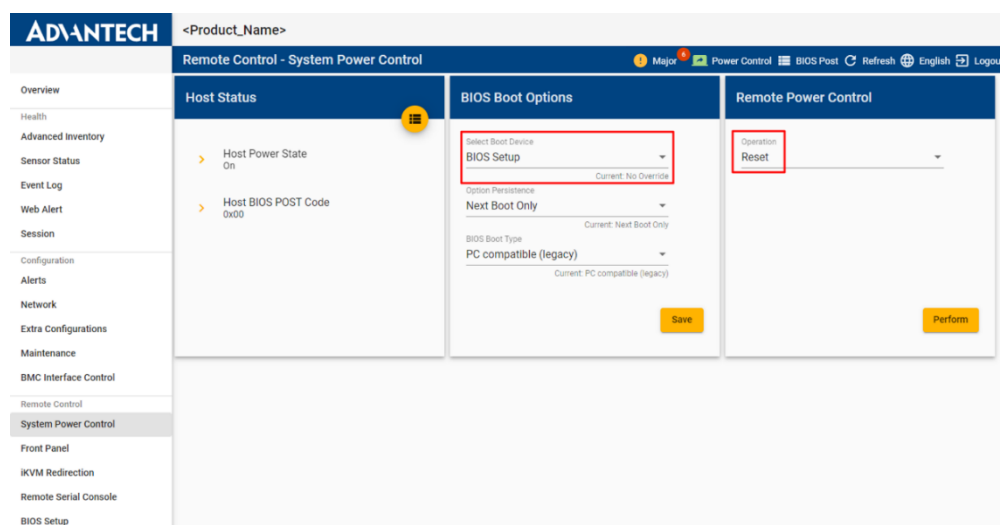
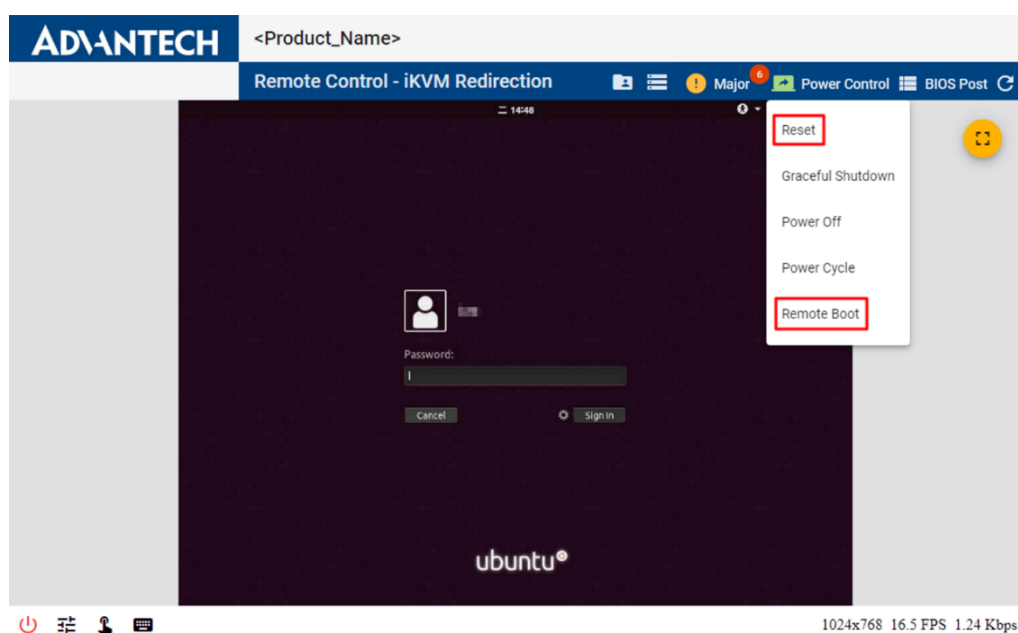

Figure 102: Restarting x86 Payload and Entering BIOS Setup Menu
Figure 103: Restarting x86 Payload from Tool Bar and Entering BIOS Setup Menu
3. Select **BIOS Boot Options** and reset x86 system as in 3.5.1 **System Power Control** page as Figure 102 or the power icon  in Tool bar at the right-topside of the web interface as in Figure 103. **Remote Boot** will boot from remote storage.